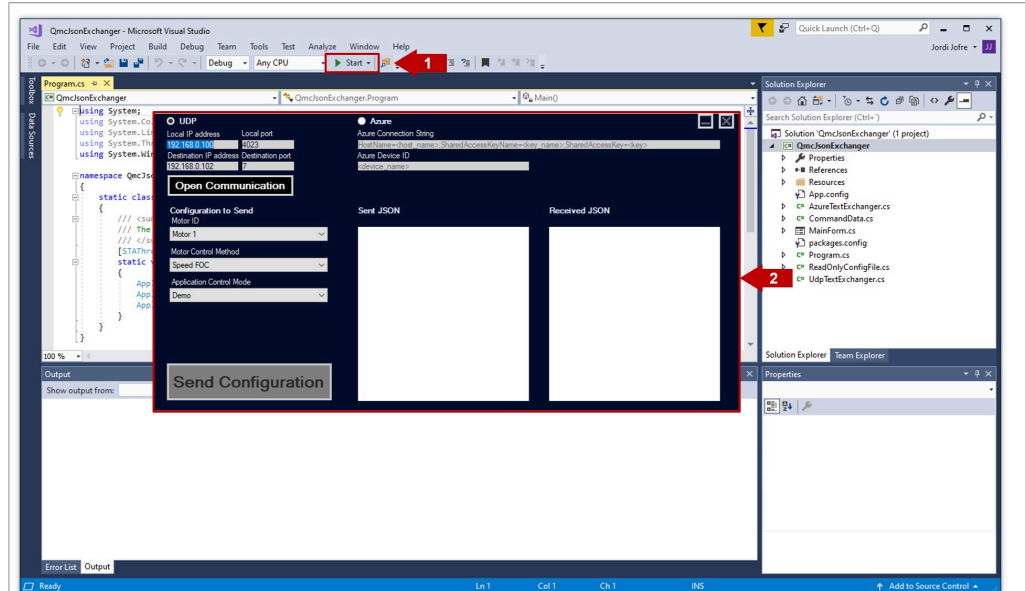

Figure 78. Run QMC JSON Exchanger application
- Open the Visual studio project solution and run the QMC JSON Exchanger application by clicking the **Start** button, as shown in Figure 78: